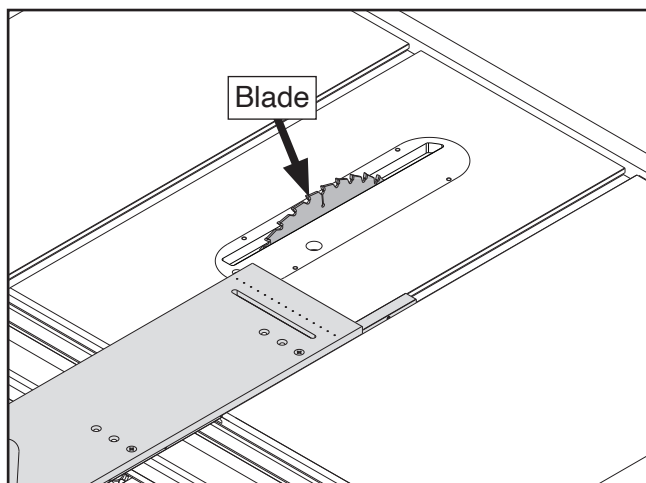

Figure 8. Checking blade clearance.
10. Remove jig from table saw and adjust (9) slotted set screws installed in **Step 4** until miter bar will move snugly and smoothly through miter slot, without wobbling side-to-side.
11. Slide jig in miter slot so it is in starting position and blade opening is clear (see **Figure 8**).
12. Raise table saw blade so it is just high enough that gullets clear workpiece (usually no more than 1/4" above table) (see **Figure 8**).